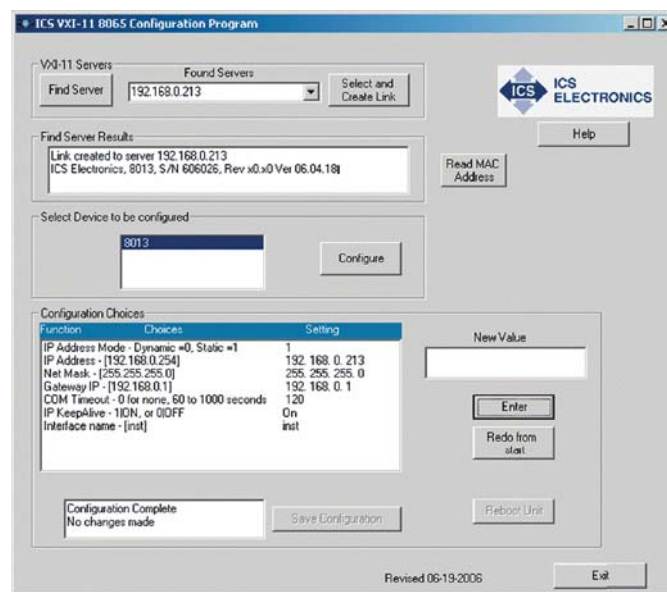

Figure 4-8 VXI-11 Configuration Utility (Showing all configuration choices with no changes)
4. Run the VXI11_config program. The Configuration Utility opens a window as shown in Figure 4-8. Initially only the Find Server, Help and Exit buttons are enabled on the program window. The other buttons will be enabled as you advance through the program.
9. Repeat step 8 for each configuration parameter. Figure 4-8 shows the VXI-11 Configuration Utility after all parameters have been entered for a Model 9006. Click the Redo From Start button if you need to start over or if you want to change any of the prior settings